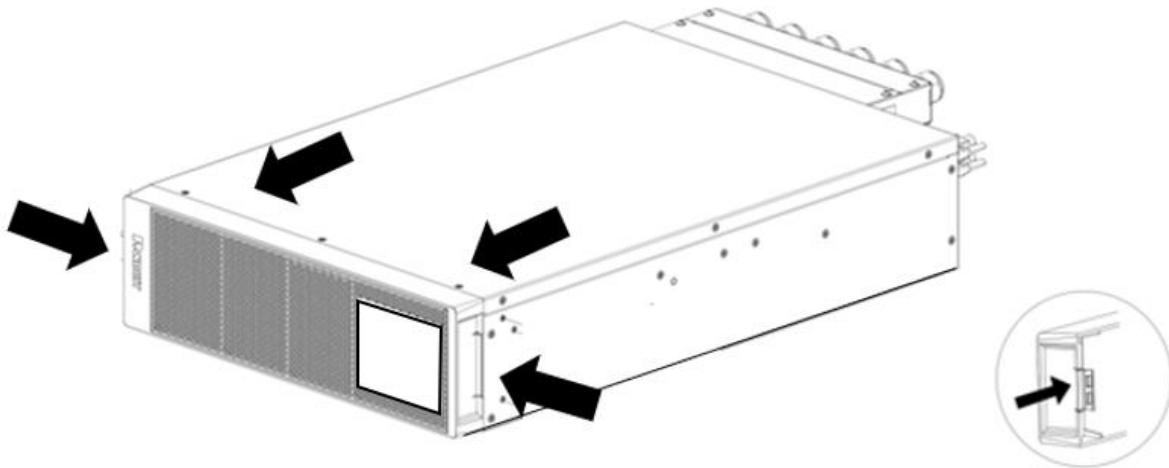

Figure 28: Press the Latches to Remove Faceplate
18. Press both sides of EBP faceplate until the latches release (see Figure 28). Then remove the faceplate from the front of the unit.